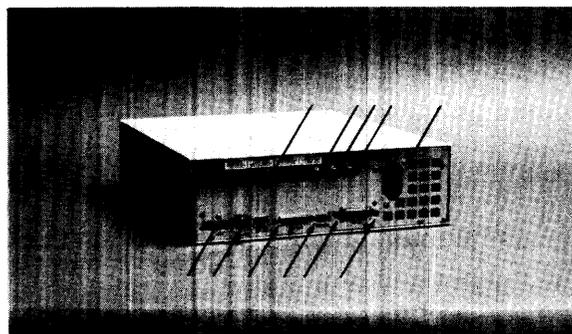

Figure 2-5. Rear Panel Fasteners
Refer to Figure 2-5 for rear panel fastener locations.
4. Remove the power supply grounding screw (Figure 2-5).